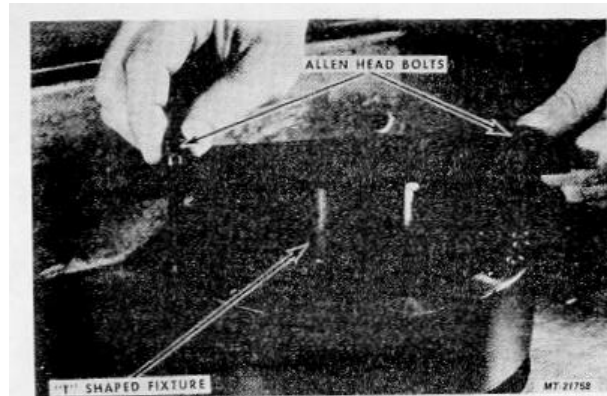

Fig. 66
29. Install proper length Bolts from the tool kit to secure the "T" shaped fixture SE-2782-5 to the Pulley and TIGHTEN the bolts, finger tight, Fig. 66.